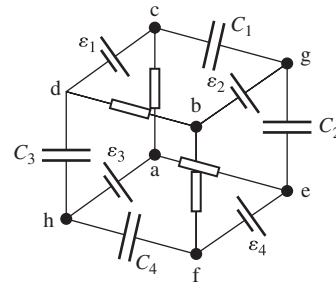

FIGURE P4.19 Circuit for Problem 4.19.
- 4.19 * Find ϵ_4 and the current through each resistor shown in Figure P4.19. $\epsilon_1 = 4$ V, $\epsilon_2 = 8$ V, $\epsilon_3 = 12$ V, $C_1 = C_2 = C_3 = C_4 = 1$ μF . All resistors have the same resistance of 1 Ω .
- 4.20 (A) Find the charge on each capacitor shown in Figure P4.19. Use the parameters in Problem 4.19.
- 4.21 (A) Find the total energy stored in capacitors shown in Figure P4.19. Use the parameters in Problem 4.19.
- 4.22 (H)* Connect nodes a and b in Figure P4.19, repeat Problem 4.19.
- 4.23 (A) Connect nodes a and b in Figure P4.19, repeat Problem 4.19.
- 4.24 (A)* Connect nodes a and b in Figure P4.19, repeat Problem 4.19.